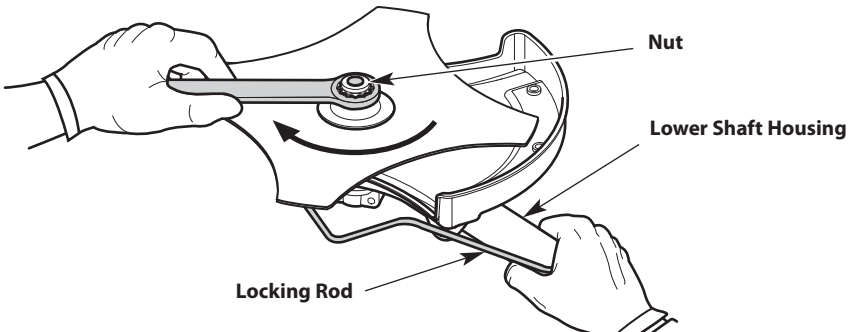

Fig. 15
3. Hold the locking rod in place by grasping the other end against the lower shaft housing (Fig. 15).
4. While holding the locking rod in place, unscrew the nut by turning it **clockwise** with a wrench (Fig. 15).